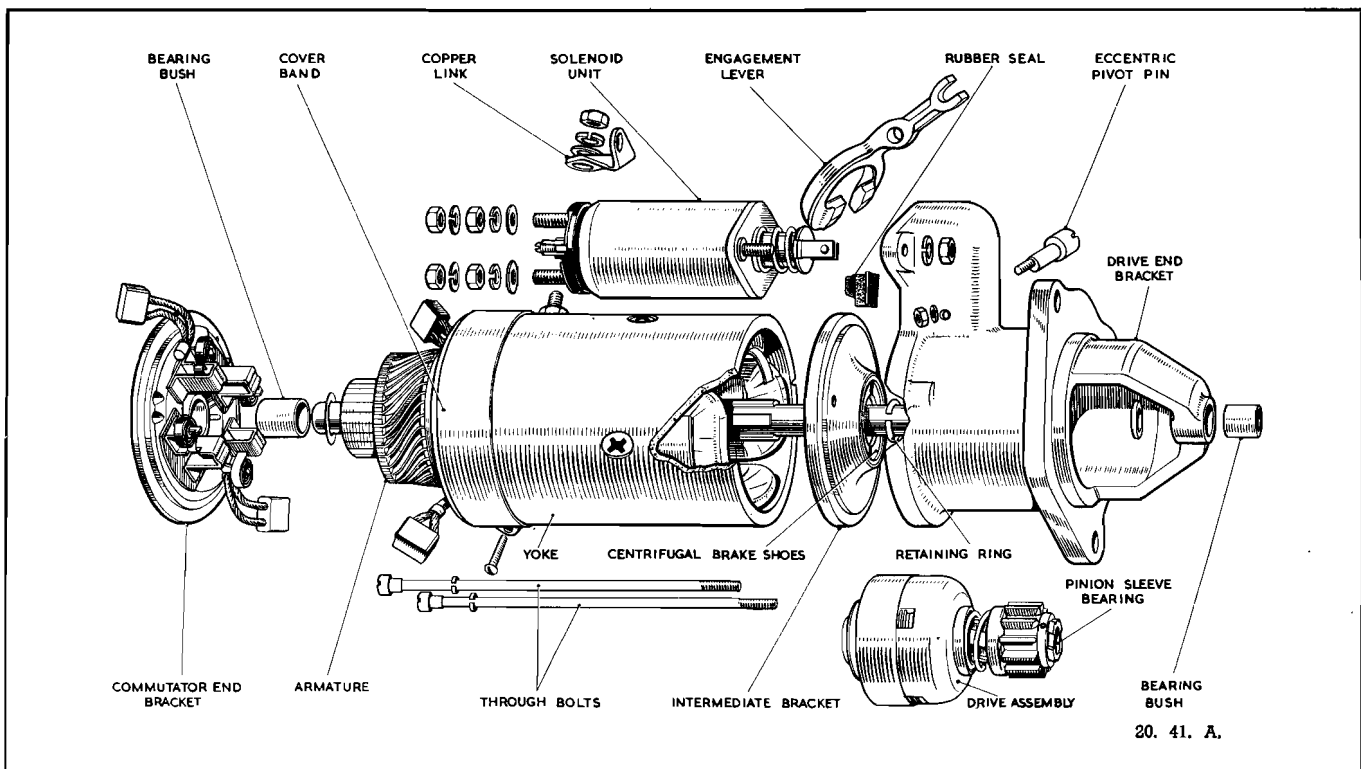

Fig. J19 Starter Motor exploded
6. Remove the nut securing the eccentric pin (Fig. J19) on which the starter drive engagement lever pivots, and withdraw the pin.